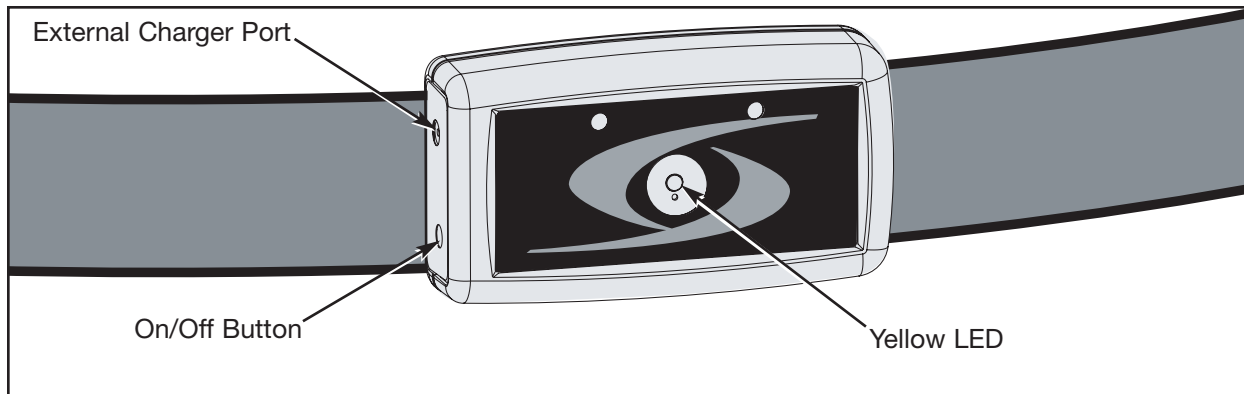

Figure 3
4. Verify the on/off button for the beacon is located on your right. See Figure 3.